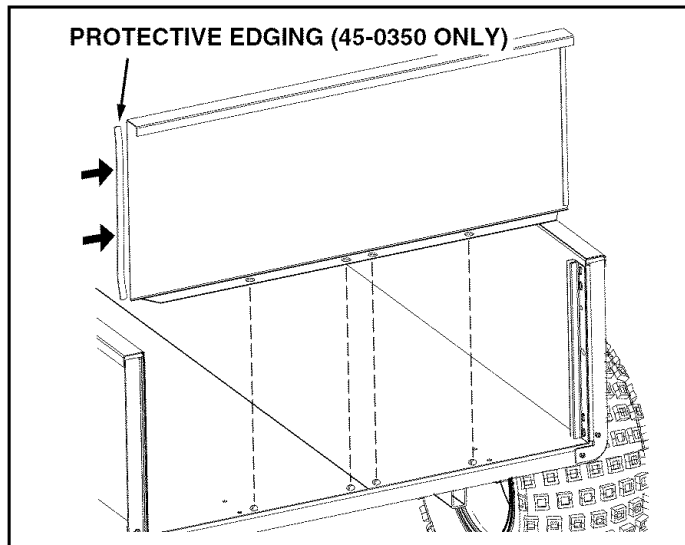

FIGURE 13
27. (Model 45-0350 only) Press the protective edging strips onto the ends of the tailgate. See figure 13.
28. Slide the tailgate down into the tailgate guides so that the holes in the bottom of the tailgate fit over the screws in the bottom of the cart bed. See figure 13.